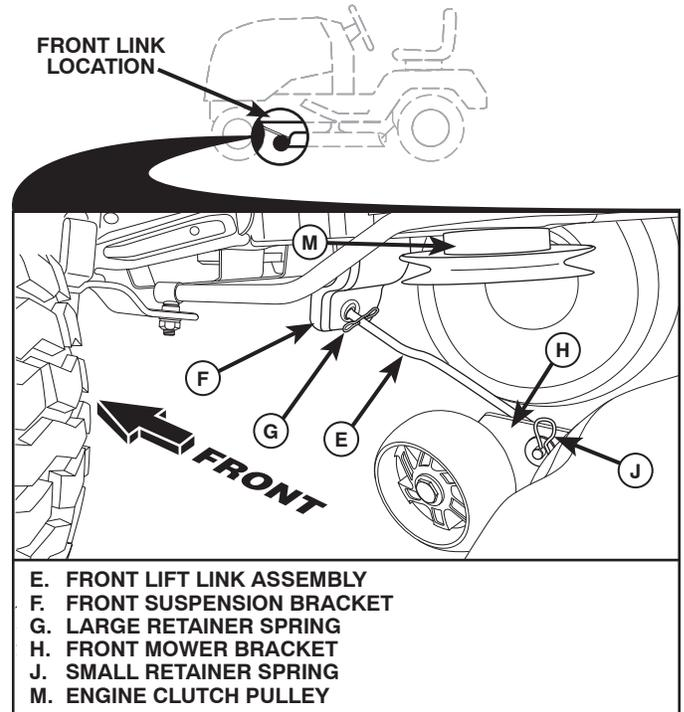

Fig. 29
8. ATTACH FRONT LINK (E) (See Fig. 29)
- From front of tractor, insert rod end of front link (E) through front hole in tractor front suspension bracket (F).
- Move to left side of mower and insert large retainer spring (G) through hole in front link (E) behind front suspension bracket (F).
- Insert other end of link (E) into hole in front mower bracket (H) and secure with washer and small retainer spring (J).